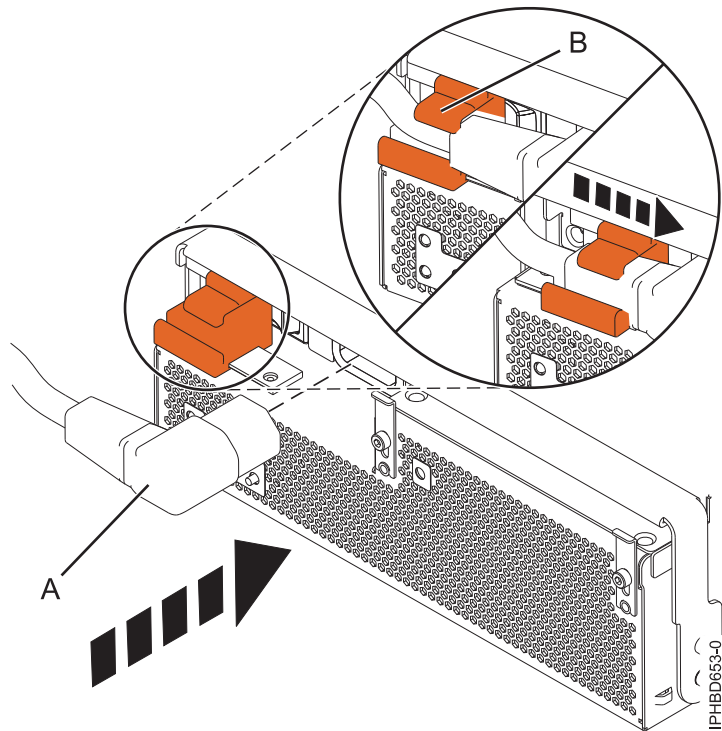

Figure 24. Connecting the power cable to the front of an expansion unit
8. Connect the power cable (A) to the front of the power supply, and then slide the cable retention bracket (B) to the closed position to secure the cable as shown in Figure 24.